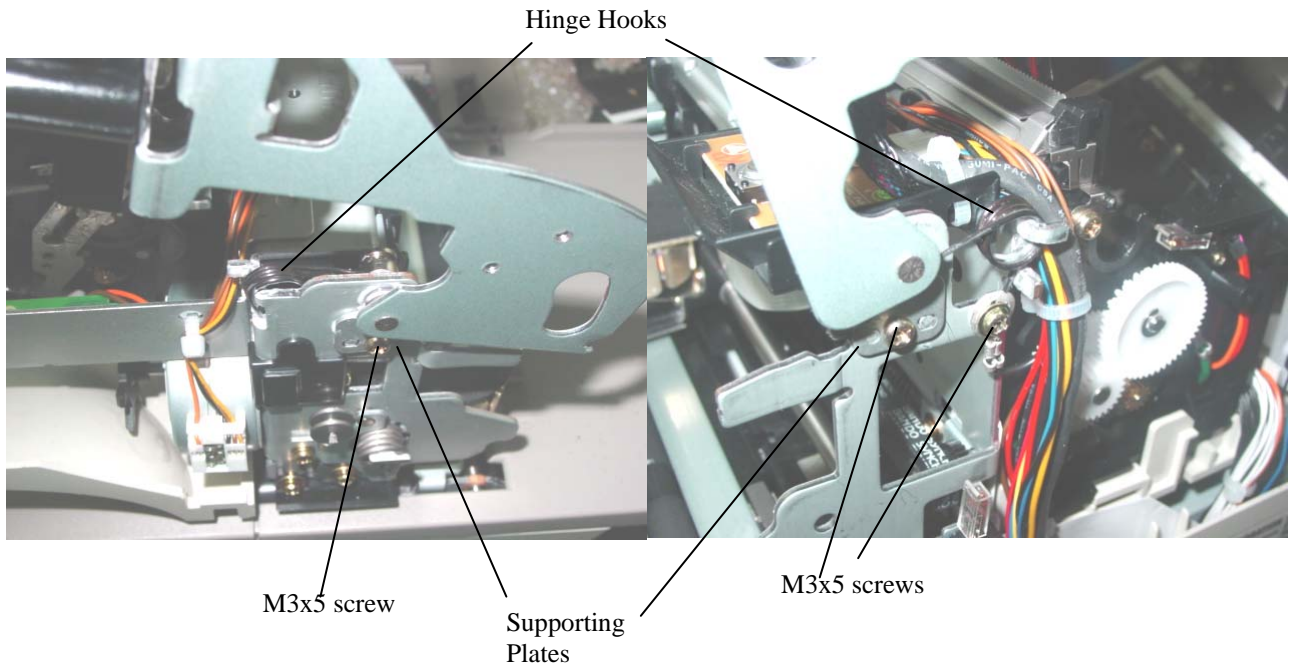

Figure 11 – Removing Flip Mechanism
5. Unscrew three screws (M3x5 pan head screw), two hinge arm supporting plates and two hinge hooks. (Figure 11)